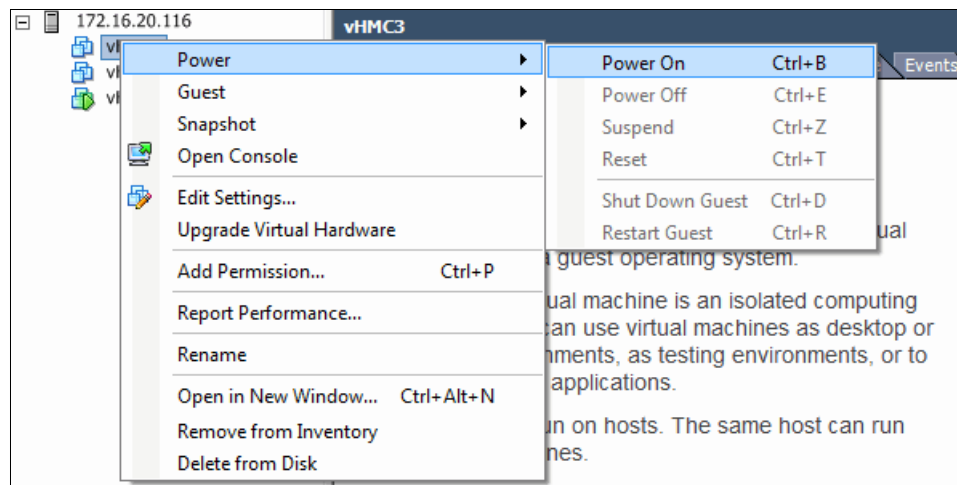

Figure 3-44 Power On the new VM
11. In the main vSphere pane, right-click the new VM and select **Power** → **Power On**, (Figure 3-44).